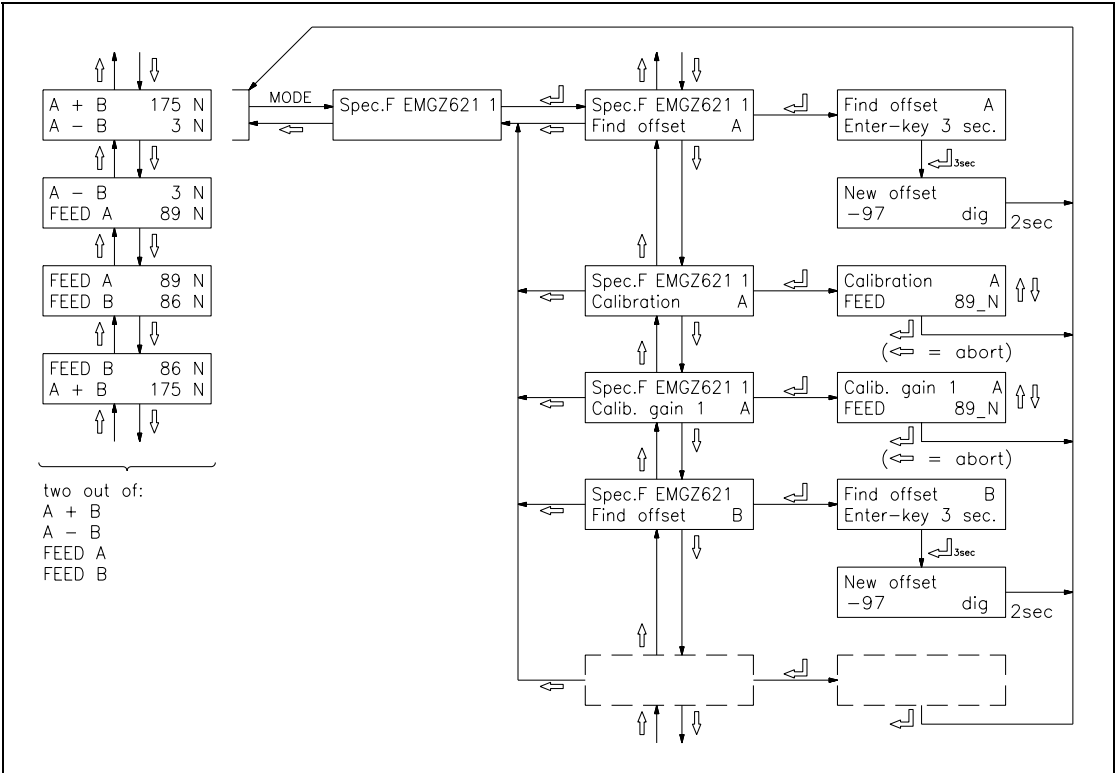

fig. 8: Main operating menu EMGZ621A E621A005e
- Press MODE key. Search and select the module *Spec.F EMGZ621A 1* and the special function *Find offset A* with the  $\uparrow \downarrow \hookrightarrow$  keys (fig. 8).
- Find offset for channel A by pressing the  $\hookrightarrow$  key for 3 seconds (fig. 8). The electronic unit calculates automatically the new offset value for channel A. The display will return to the main operating menu.
- Repeat the procedure written above with special function *Find offset B* (fig. 8). The electronic unit calculates automatically the new offset value for channel B. The display will return to the main operating menu.
- Press MODE key. Search and select the module *Spec.F EMGZ621A 1* and the special function *Calibration A* with the  $\uparrow \downarrow \hookrightarrow$  keys (fig. 8).
- Set the force referring to **half of the applied weight** into the display with the  $\uparrow \downarrow$  keys and confirm with  $\hookrightarrow$  key (fig. 8). The electronic unit calculates automatically the new gain A value. The display will return to the main operating menu.
- Repeat the procedure written above with special function *Calibration B* (fig. 8). The electronic unit calculates automatically the new gain B value. The display will return to the main operating menu.